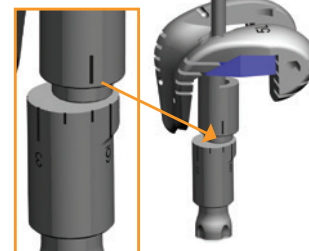

Figure 69
4. Using a 3.5mm hex screwdriver, screw on the appropriate distal, posterior or L-wedge trial(s) to the femoral trial (Figure 69).